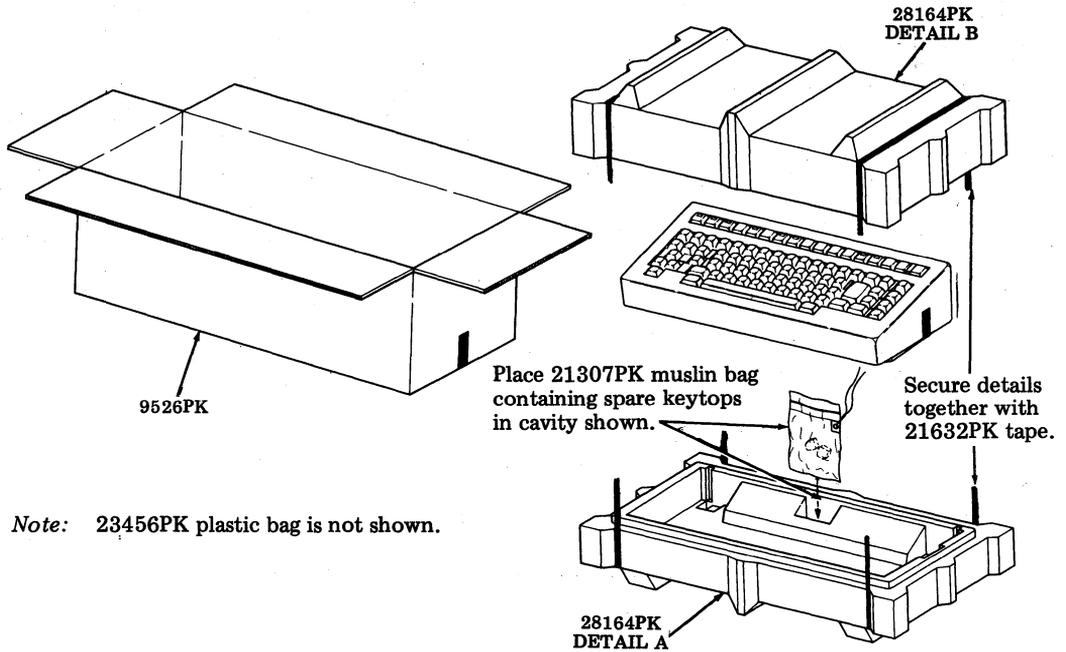

Fig. 50—Early Design Packing Detail
- Step 7. Form a 9526PK carton. Close bottom flaps and seal center seam with a strip of 21719PK tape. The tape should extend approximately three inches down ends of carton. (See Figs. 50 and 51.)